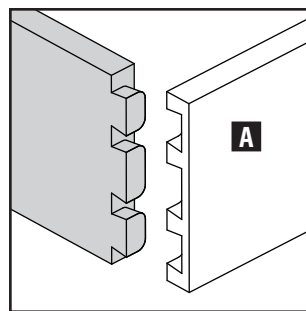
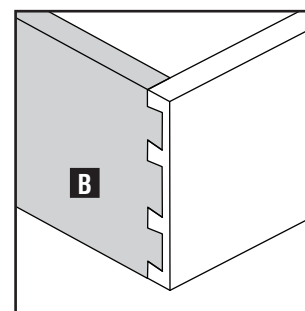

Fig. E1
Fig. E2
On the OMNIJIG®, variable-spaced half-blind joints can be cut using the variable finger template (regular or miniature). The joints are made by cutting the pinboard (drawer front) (A) Fig. E1 first and then the tailboard (drawer side) (B) Fig. E2.